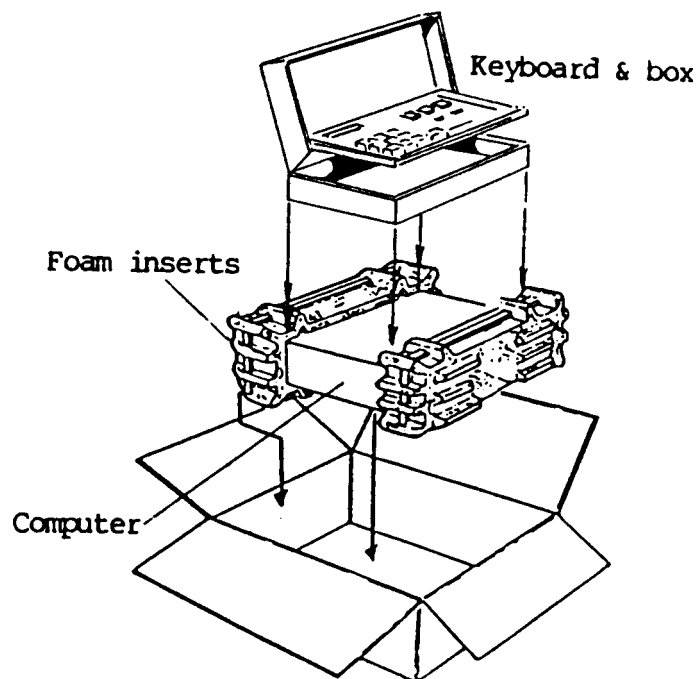

Figure 5-14 Computer packaging
8. Repackage the replaced computer as shown in Figure 5-14.